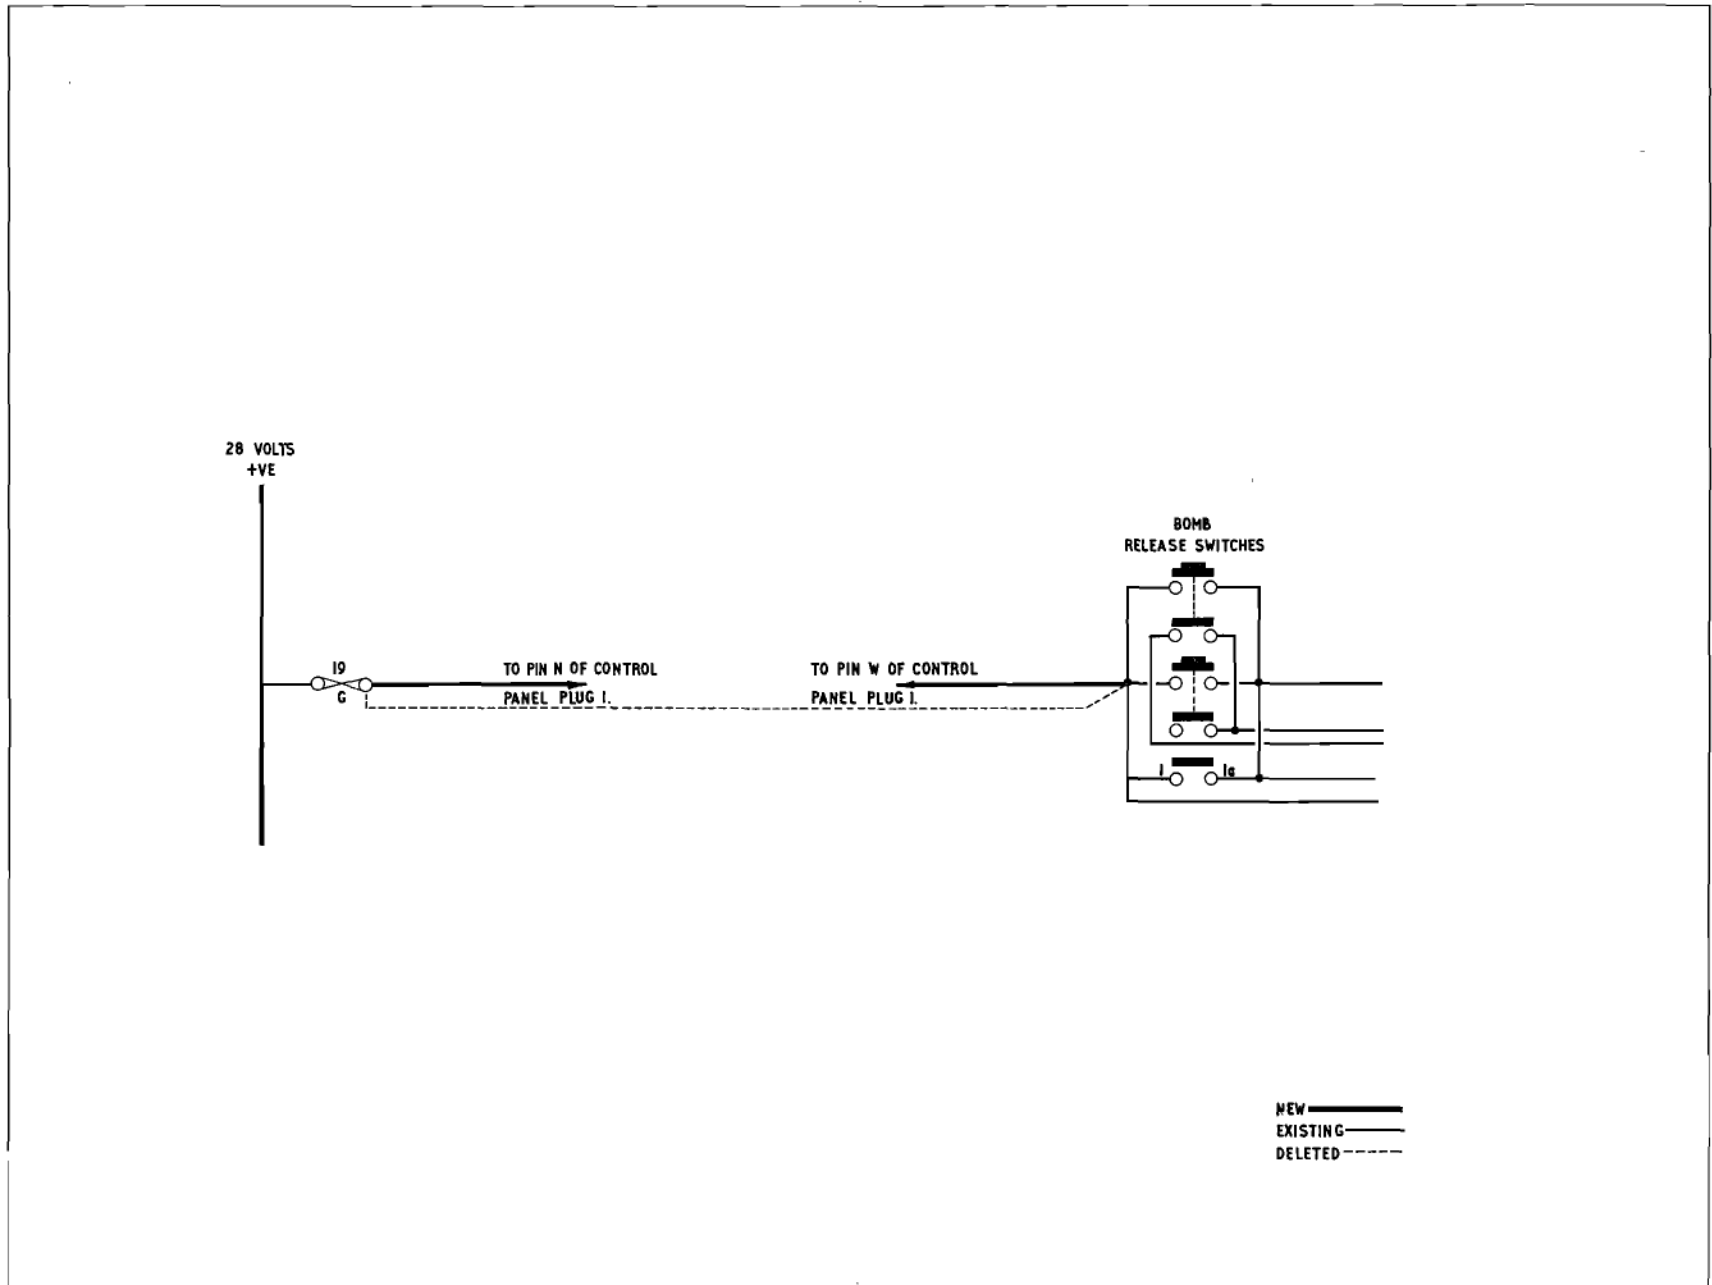

Fig.1 Alterations to Figs.4,5,6 and 9 (post Mod.3171)
1. Positive supplies to the bomb release pushes were, pre the mod., fed directly from fuse 19 on panel G. Post Mod. 3171 the positive supplies are first routed through the bomb control panel as indicated in figs. 1 and 2 of this appendix, this is to ensure that bomb release circuits cannot be energised until the control panel is fitted and connected. The remainder of the bomb control circuit remains unaffected.